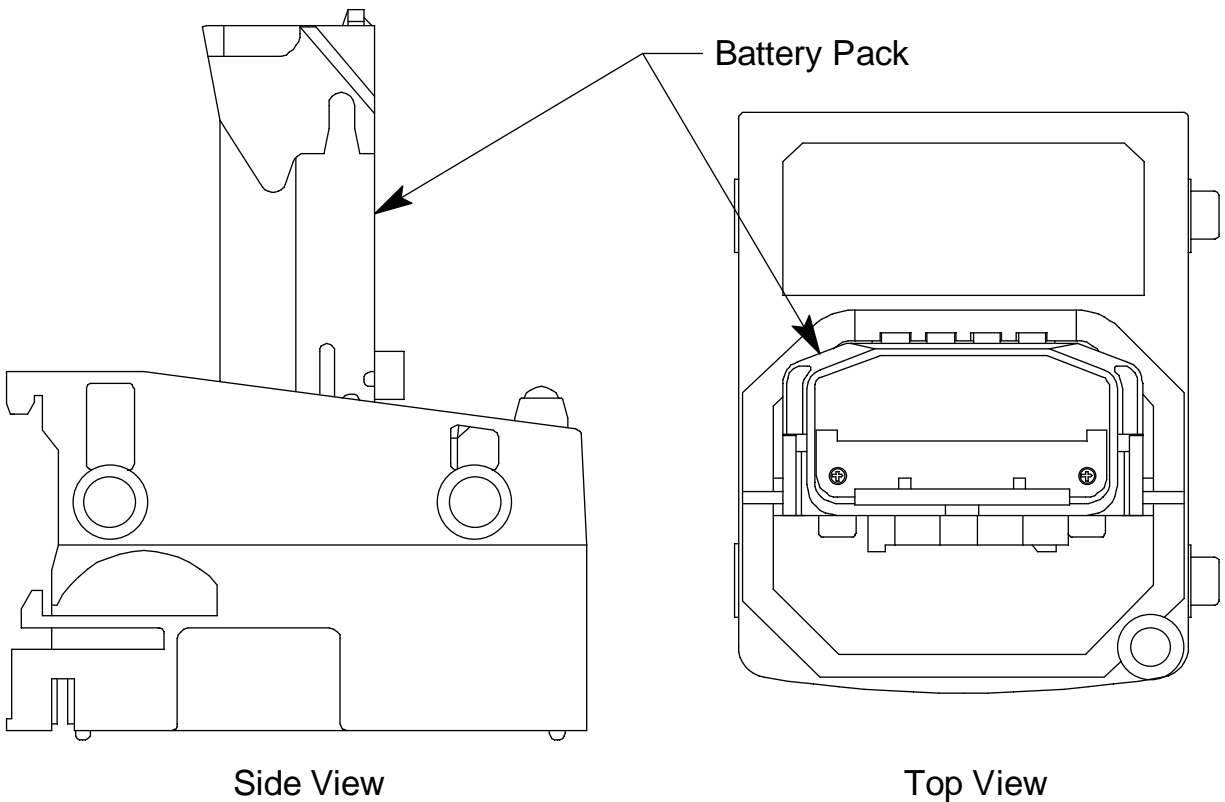

Figure 21: Putting the Battery Pack into the Charging Station
5. Insert the battery pack into the charging station as shown in Figure 21 below so that the metal contacts on the back of the battery pack come into contact with the metal contacts in the charging station. When proper contact has been made, the red LED on the charging station will turn on.